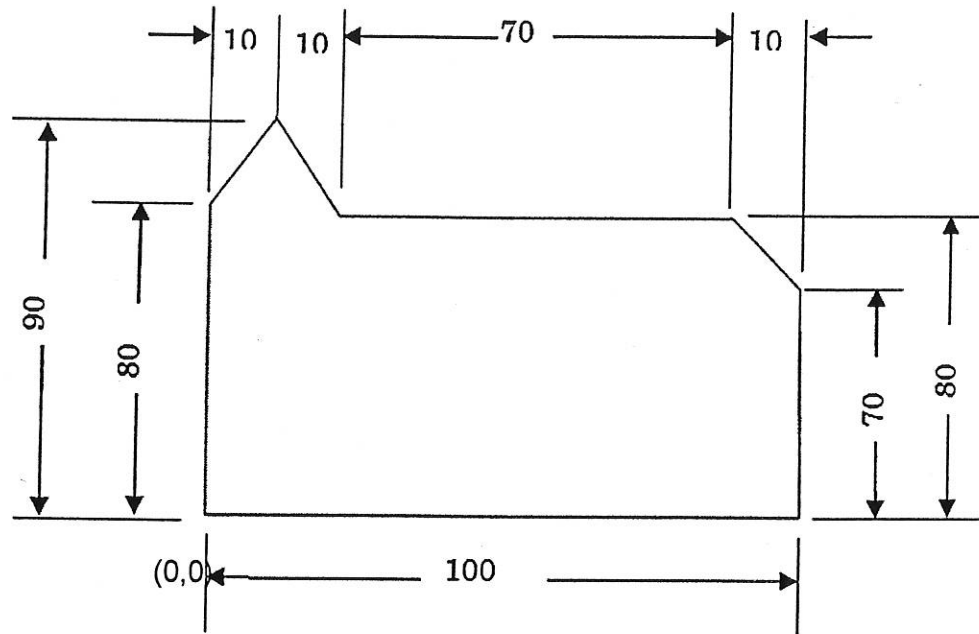

Figure 3c / Rajah 3c
- (c) Based of Figure 3c, construct a CNC Program to produce that item.